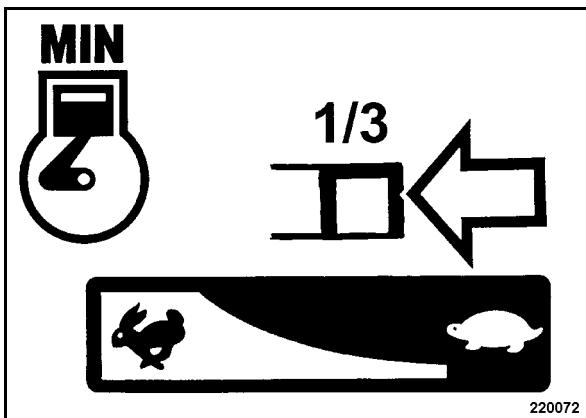

Fig. 17
- Set the throttle lever (Fig. 17) to 1/3 throttle position.